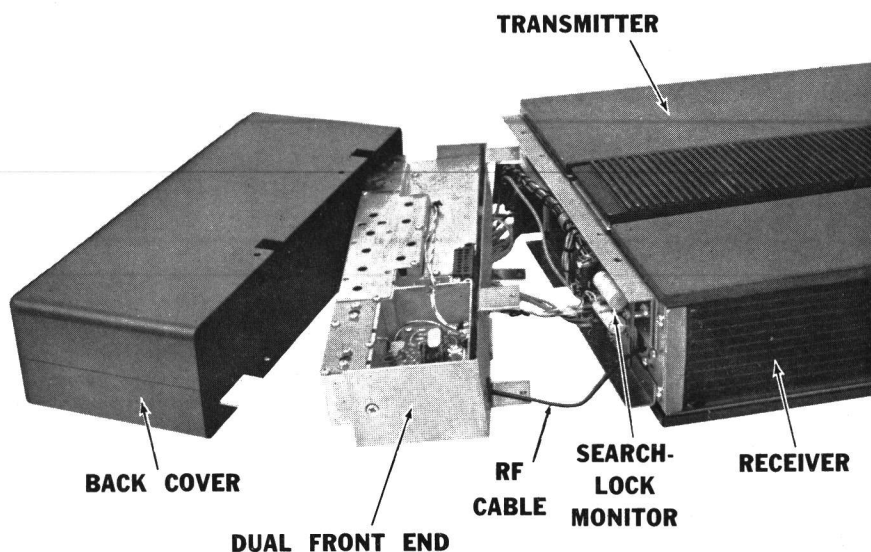

Figure 12 - Dual Front End Disassembly
2. Remove the four screws holding back cover to system frame. Slide cover back and lift off (see Figure 12).